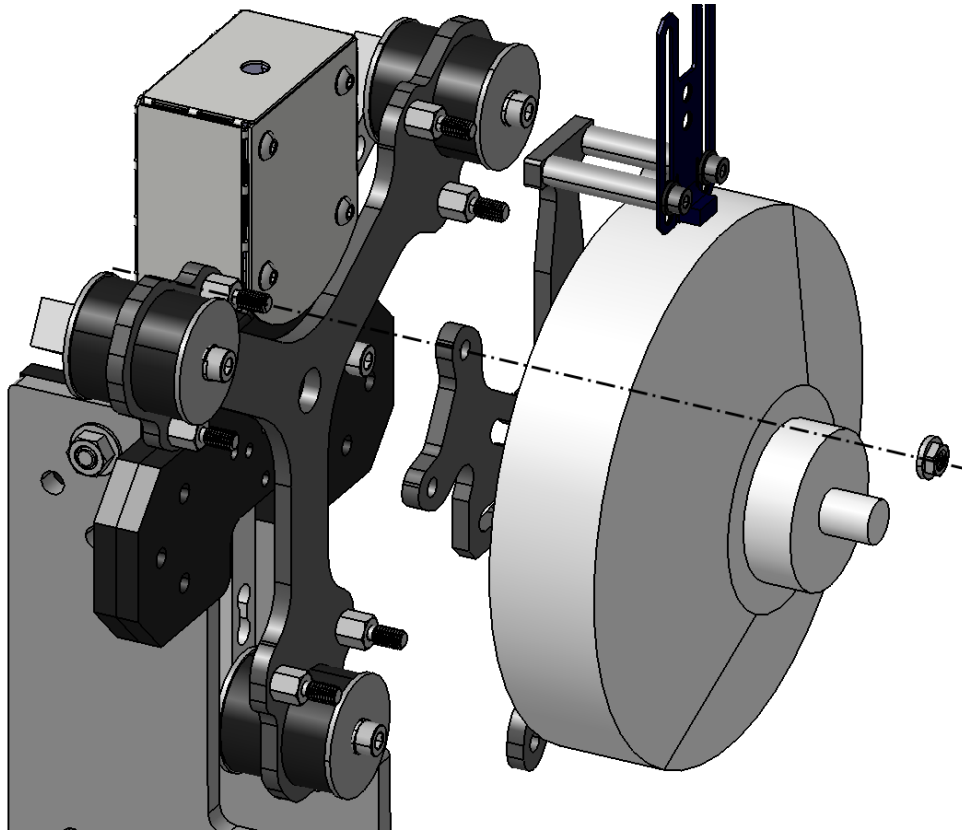

Fig. 4.26: Connection of load measurement unit with motor mount assembly using M5 nuts
- ❑ Place the no-solder board (#KPAD) on any side of the support plate, aligning with the any of the four-hole feature indicated in fig. 4.26. However, it is recommended putting it as close to the motor as possible: